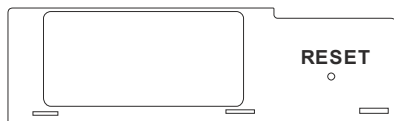

Figure 66
1. Press and hold, using a pointed object, the receiver's reset button until you hear two acoustic signals (see **Figure 66**).